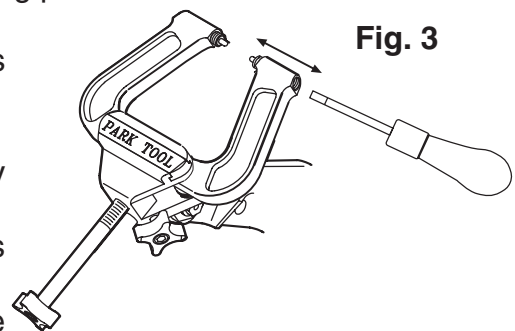

Fig. 3
6. Indicator screws can be turned in or out from the outboard side of either caliper to fine tune centering alignment of TS-3. See Fig. 3.